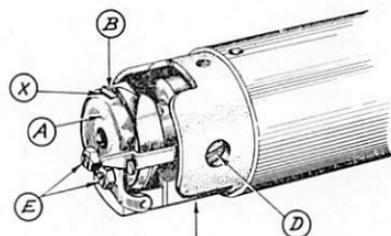

FIG. 1
Remove Screws (A) (B) and (C) Fig 1 and take off Face Plate and Latch Sleeve.
The clearance between Bobbin Holder (A) and Bobbin (B) at (X) (See Figs. 1 and 1A) should be approximately $\frac{1}{32}$ of an inch.
To adjust clearance, loosen Set Screw (C) (nearest one towards operator of three Set Screws on underside of Yoke Casting) Fig. 1 and turn Eccentric Screw (D) right or left until the desired clearance is obtained. Then tighten Set Screw (C) securely.
The amount of clearance between the inside crowned ends of Adjusting Screws (E) and Bobbin (B) at (XX) (See Figs. 1 and 1A) should be just sufficient to allow the thread to pass between them. To adjust, loosen Lock Nuts and turn Adj. Screw (E) until it tightens on Bobbin Case - then loosen about $\frac{3}{4}$ of a turn - hold in position with screw-driver and tighten Lock Nuts.